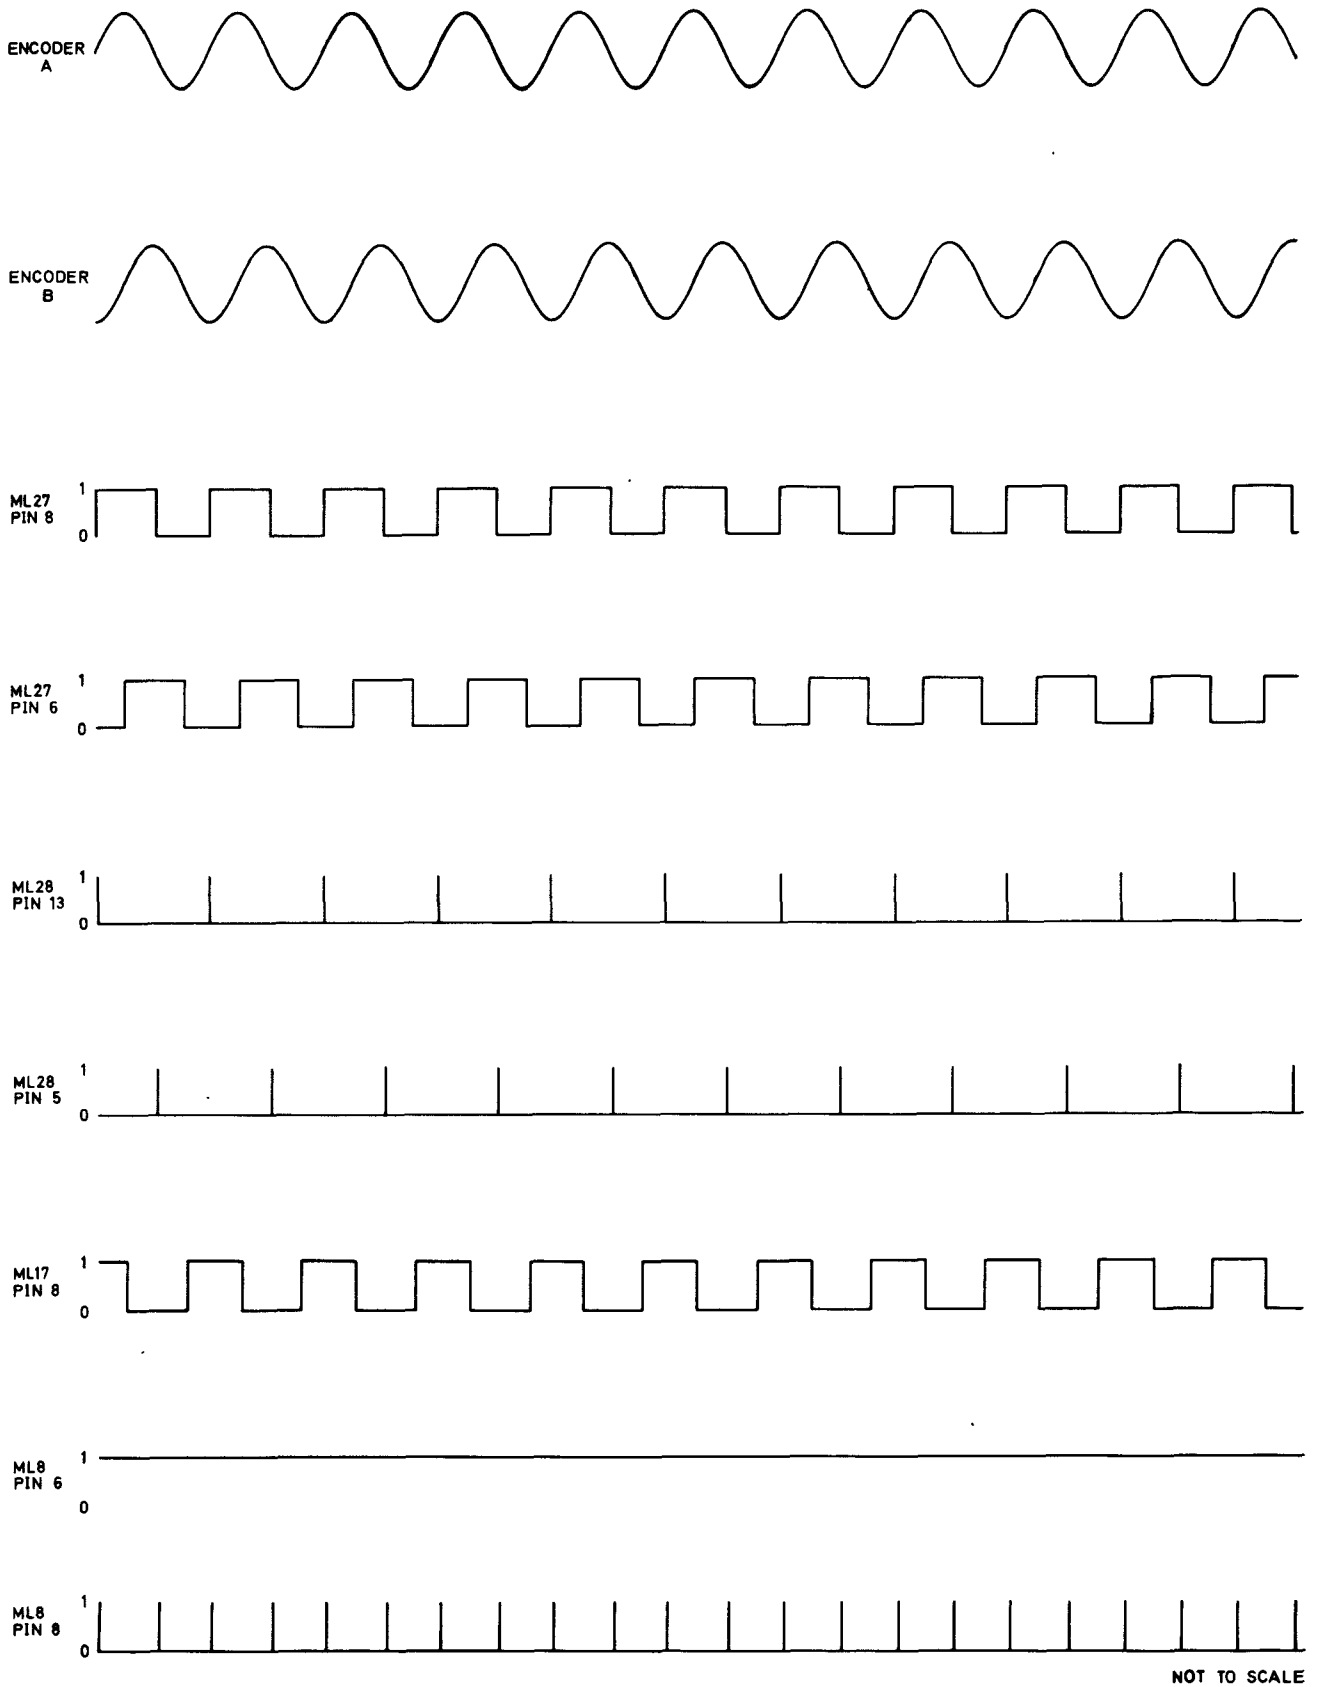

Fig.1 Timing diagram : fast-tune mode
9. Figure 1 is a timing diagram for the fast-tune mode. When the fast tuning mode is selected (at the front panel), an earth (0V) is applied to board pin 29. This is routed to two OR gates, G13, G14, and also to an inverter, NAND gate G12. The resultant logic '1' output from G12, at ML8 pin 12, is applied to the clear inputs (CL) of monostable ML28a and the 10Hz up/down counter, ML6. As stated in para.7, a logic '0' is required to clear ML28a and the monostable is therefore enabled. ML6 however, is cleared and under this condition the + and - outputs, at pins 12 and 13, are forced to logic '1', thereby opening AND gates G16 and G17 for positive-going output pulses from either of the two OR gates, G13, G14. Thus in the fast tune mode, positive-going pulses are produced from both ML28a (positive edge triggered) and ML28b (negative edge triggered) by the square-wave output from G1, whilst ML6 is inhibited. In this mode, one revolution of the shaft encoder spindle produces 500 pulses, i.e. a tuning rate of 50kHz per turn.